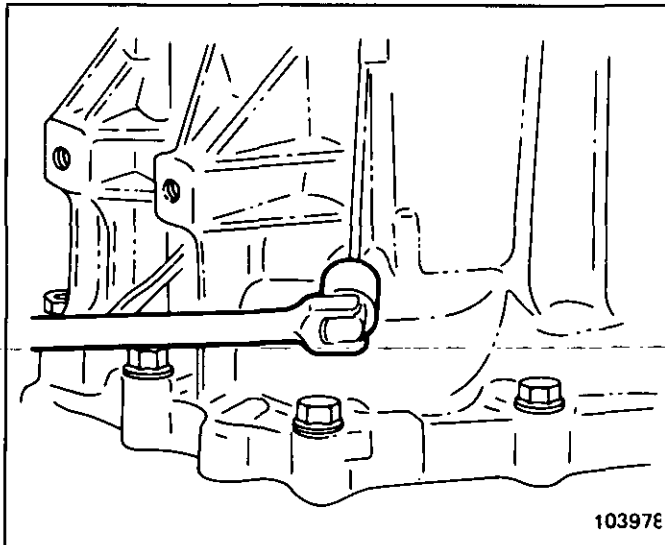

Figure 15 Reverse Idler Shaft Bolt
8. Remove the bolt used to retain the reverse idler shaft at the transaxle case (Figure 15).